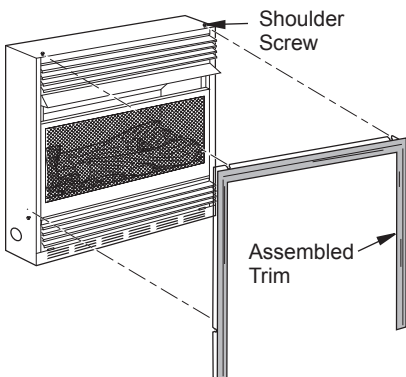

Figure 5 - Attaching Trim to Compact Fireplace
8. Trim should be attached only after your fireplace has been installed into the mantel or wall. To install trim, firmly snap trim assembly on shoulder screws (see Figure 5). Shoulder screws are located on fireplace cabinet.